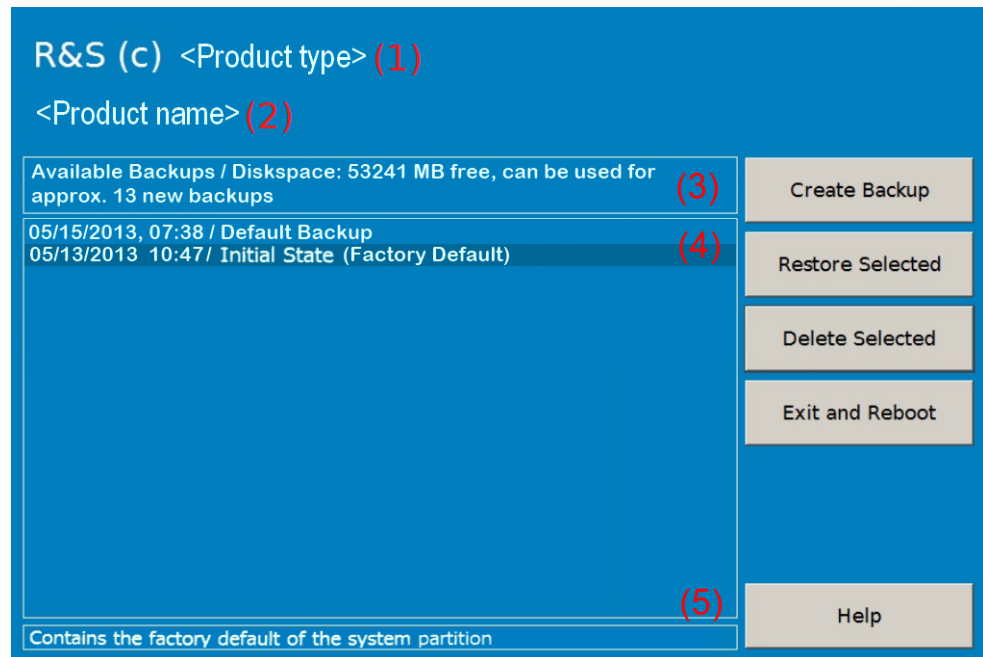

Figure 10-1: Main dialog (example)
1. In the main dialog (see Figure 10-1), select "Create Backup".
1. In the main dialog (see Figure 10-1), select the backup you want to restore.
1. In the main dialog (see Figure 10-1), select the backup you want to delete.